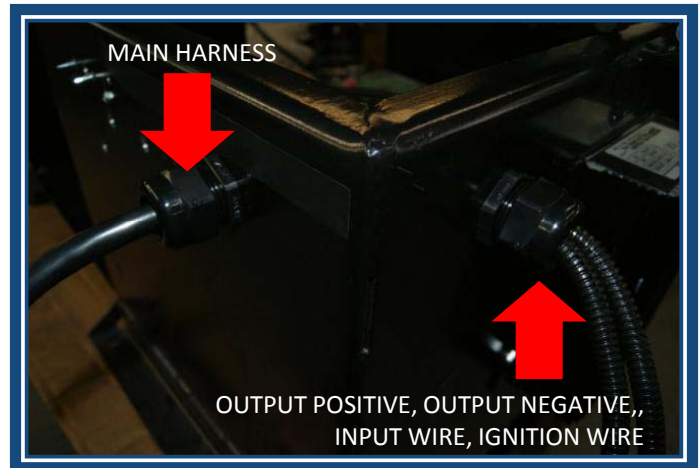

Figure 4
Step 4: Route the main harness into the battery box through the hole in the side of the battery box. **All wires routed through the battery box should be protected with a rubber grommet or dome nut.** (See Figure 4)